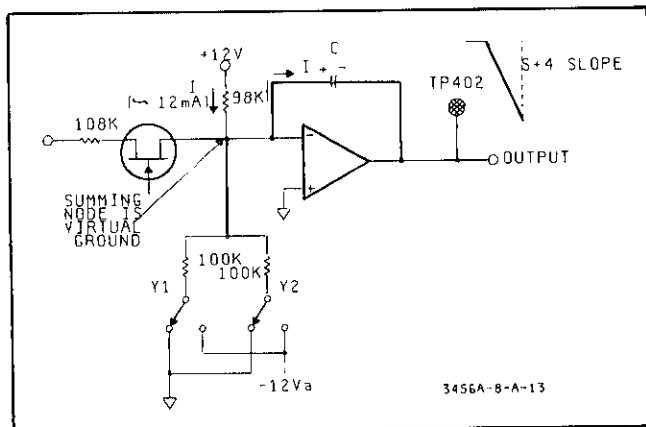

Figure 8-13. Simplified Schematic Of S+4 Slope Generation Circuit.
8-61. **S+4 and S-4 Slope Generation.** Figures 8-13 and 8-14 are simplified illustrations that show the slope generation concept used by the 3456A. The lower ends of both Y1 and Y2 circuit paths are switched to ground to generate an S+4 slope (see Figure 8-13). For this condition, there is no current flow between the summing node (virtual ground) and the grounded Y1/Y2 circuit paths. Current (I) from the +12 V reference supply flows through the summing node into the integrating capacitor (note polarity of capacitor charge). This generates the negative going ramp (S+4 slope) shown at the output of the integrator.